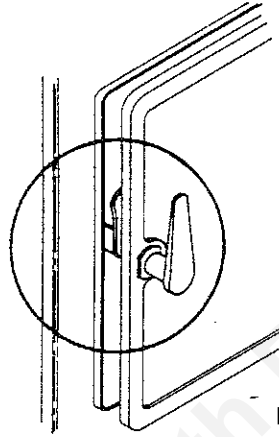

Fig. 11
2. Turn handle clockwise to the 12 o'clock position, pull the door open until you engage the second step. (Fig. 11).